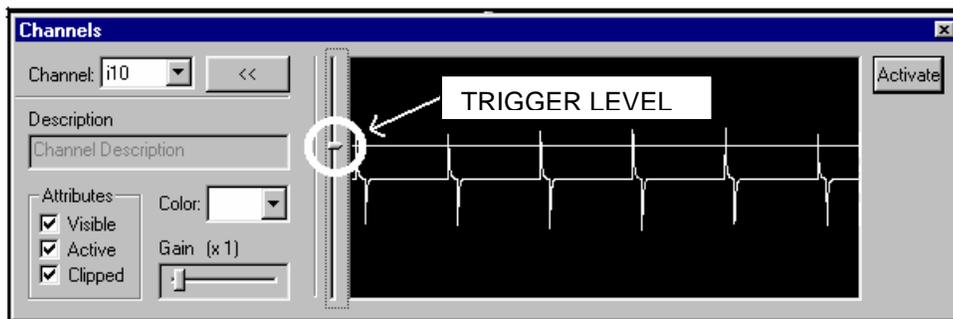

Figure 22
- Click on the [ACTIVATE] button located at upper-right portion of the window (**Figure 22**).